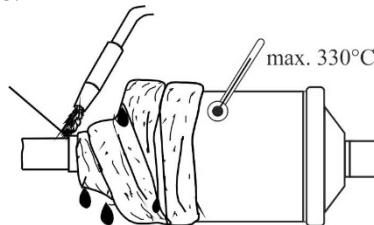

Fig.1
**1. Brazing Connection: (Fig.1)**